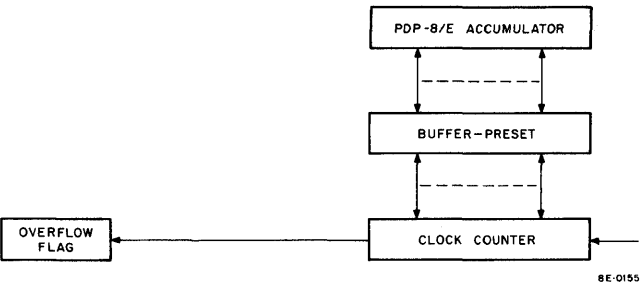

Figure 5-2 Operation of Buffer-Preset Register
The 12-bit Buffer-Preset Register is the link between the processor, accumulator (AC), and the clock counter (see Figure 5-2). The Buffer-Preset Register is used to read the contents of the Clock Counter Register into the AC; it is also used to buffer the current count in the clock counter when this value is to be saved. The Buffer-Preset Register is then made available to the program by an instruction that reads the contents of the Buffer-Preset Register into the AC. This register is also used to hold the number to be transferred into the clock counter